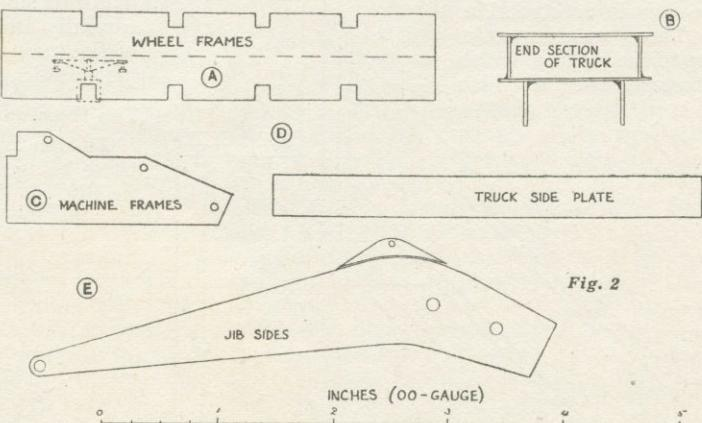

Fig. 2
Next the frame of the crane was cut from the same material as the floors. The exact size of these pieces can be ascertained from Fig. 2 (C), while other sizes for other parts are also given in (D) and (F).